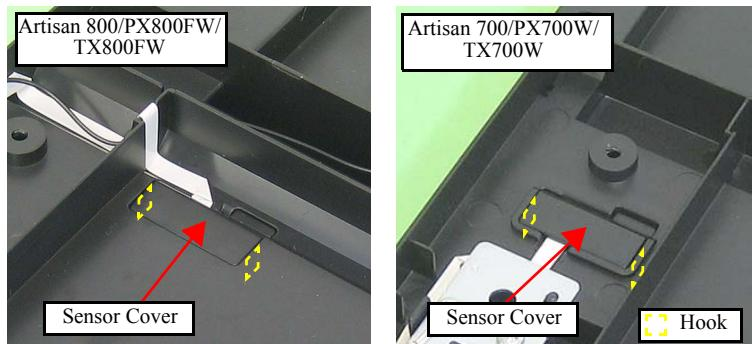

Figure 4-174. Removing the Cover Open Sensor (1)
- When attaching the Cover Open Sensor, insert it into the space inside the ribs (x2) of the Scanner Lower Housing as shown in Fig. 4-174.